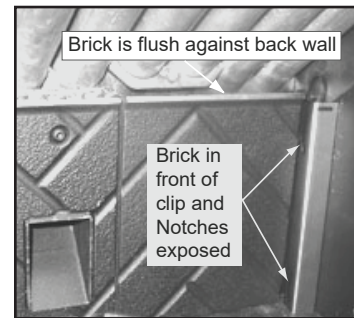

Figure 28.4
3. Reinstall bricks in reverse order ensuring that the bricks are flush against the back wall of the firebox (**Figure 28.4 & 28.5**).